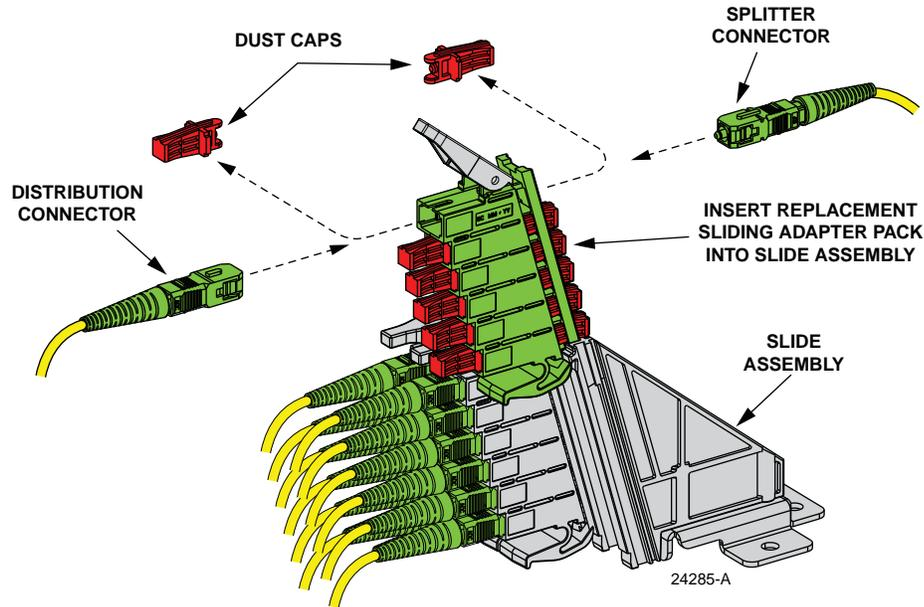

Figure 66. Installing Replacement Sliding Adapter Pack
4. Locate the replacement sliding adapter pack and install it in the slide assembly as shown in Figure 66, leaving it in the raised position.